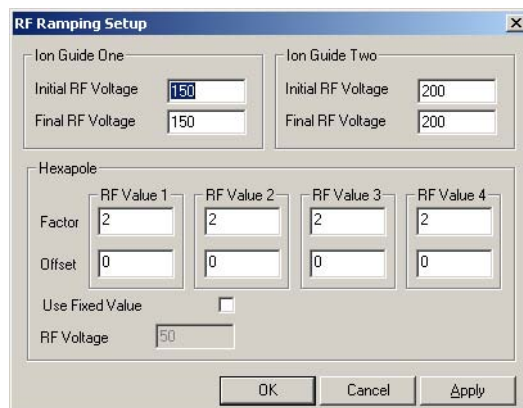

Figure D-5 RF Ramping Setup Dialog Box
1. Click  to open the RF Ramping Setup dialog box (Figure D-5).